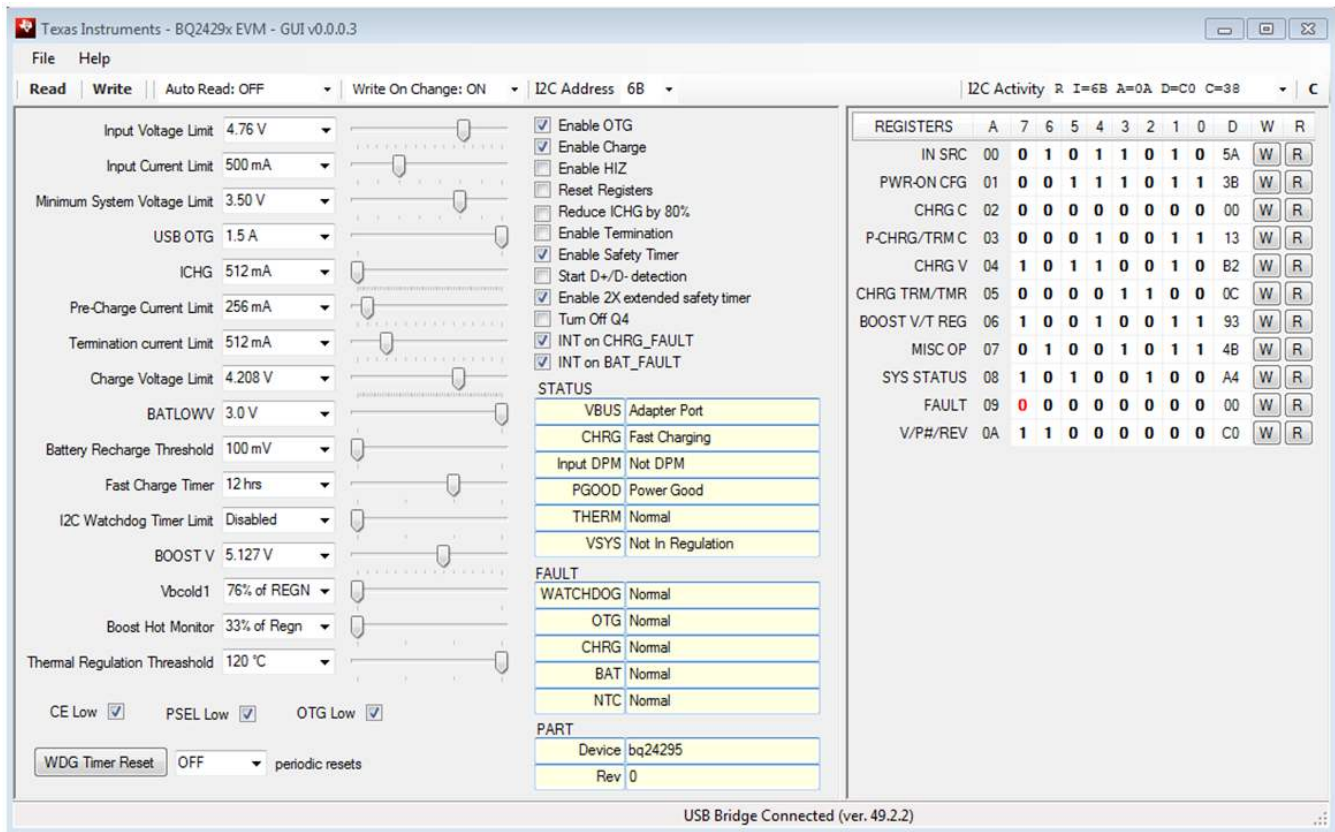

Figure 5. Main Window with Enable Termination Unchecked
- Un-Check *Enable Termination* (see Figure 5)